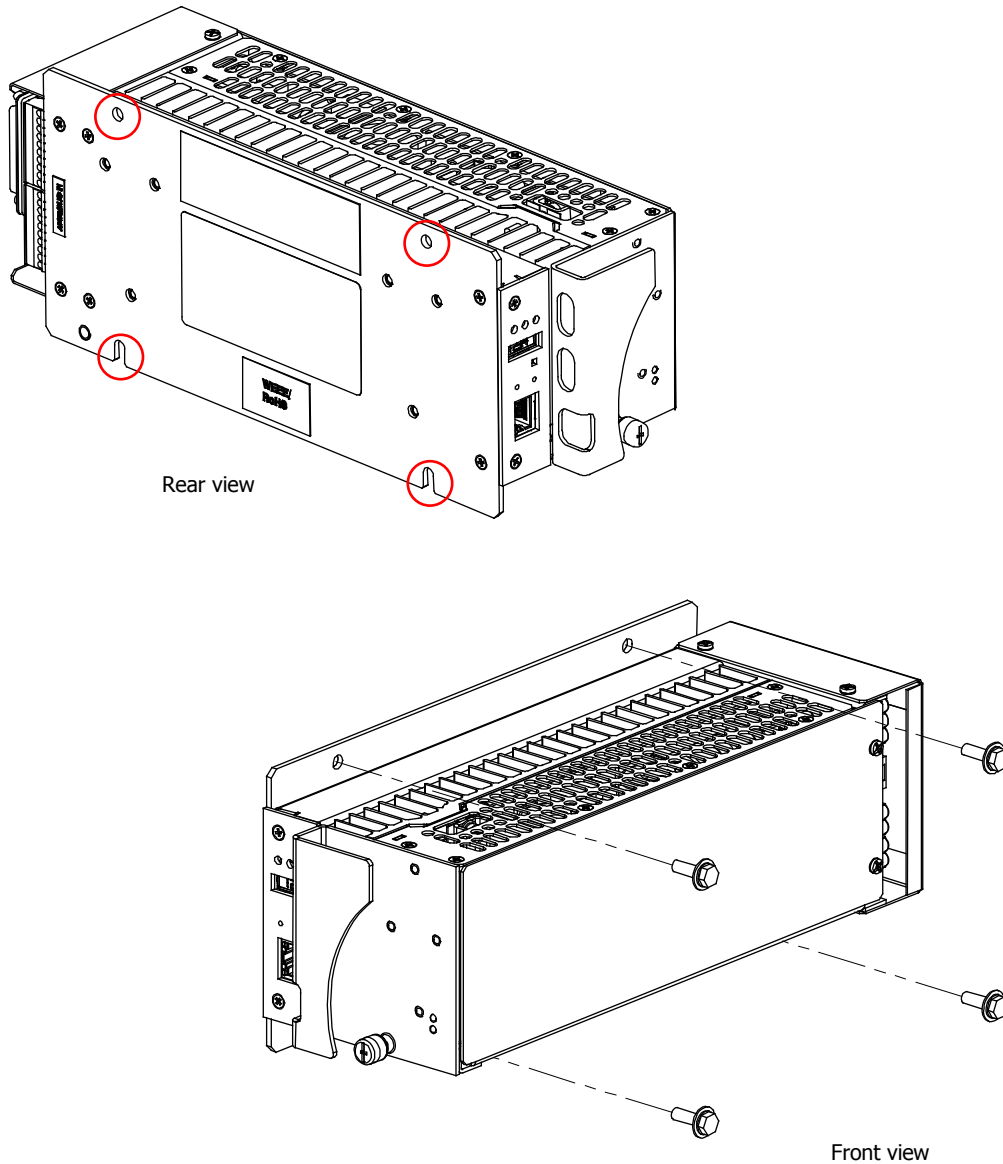

Figure 5-Panel/Wallmount Option
2. Mount horizontally on a vertical surface using appropriate #10 (M5) fastening hardware in the 4 locations shown in Figure 5.